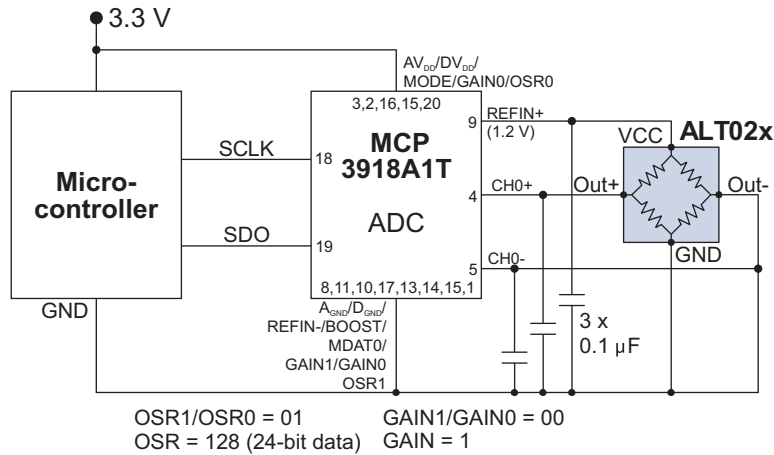

Figure 8. Typical high-resolution ADC interface.
- 24-bit ADC application circuit (Fig. 8).